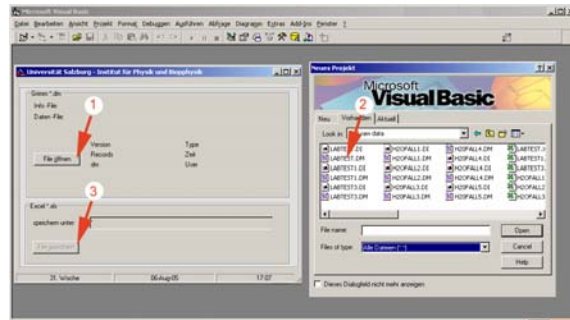

Fig.8: Parameter-setup of the OPC
8. **Data conversion (cont'd)** step 1 in fig.8):
- To select the file to be converted, click the OPEN FILE icon (step 3 in fig.8);
- Choose logged file (step 2 in fig.8);
- Convert file by clicking onto the STORE FILE icon (step 3 in fig.8);